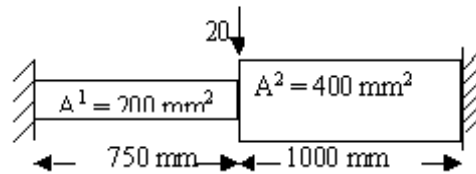

Figure 6
6. Calculate the deflection at the center of the fixed beam as shown in the figure6. $E = 220 \text{ GPa}$, $I_1 = 1000 \text{ mm}^4$, $I_2 = 2000 \text{ mm}^4$ [16]